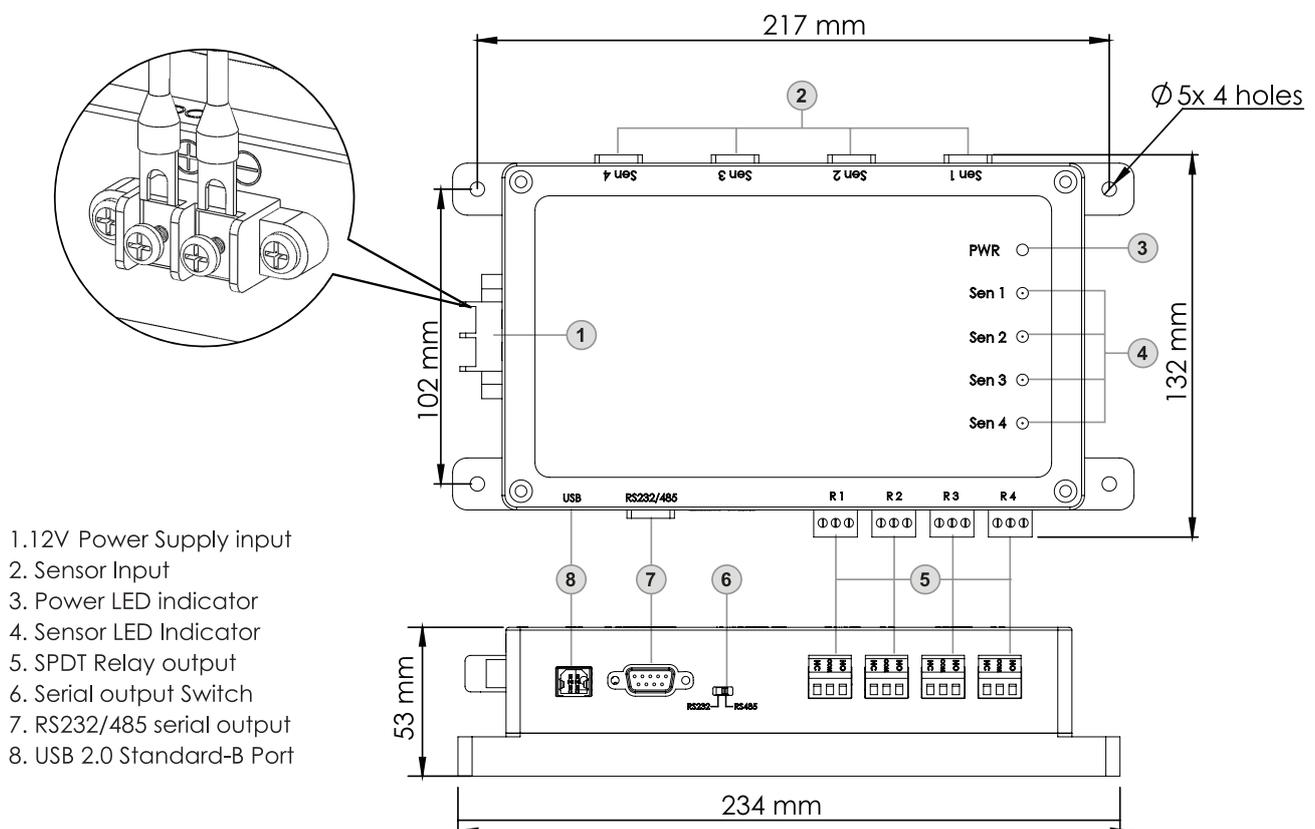

Figure 12. Overview of the Control Box
2. Connect the sensor cord to the sensor input on the DigiPas DWL5x00XY control box as shown in Figure 12.
Connect the USB cable from USB2.0 Standard-B Port on the control box to PC as shown in Figure 12(a).
- Connect cable from RS232/485 serial output on the control box to ES-U-3001-M converter as in Figure 12(b).
- Connect cable from RS232/485 serial output on the control box to ES-U-3001-M converter as in Figure 12(c).